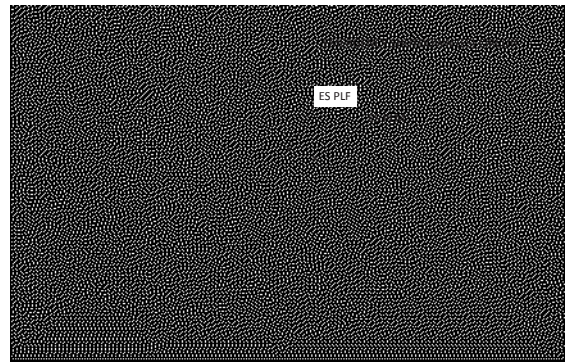

FIGURE 4
4. Locate the unit's emergency shutdown (ES) circuit inside the control box. If the unit has existing safety devices installed, reference sheet 10 for wiring instructions, otherwise, reference sheet 9. See Figure 4.